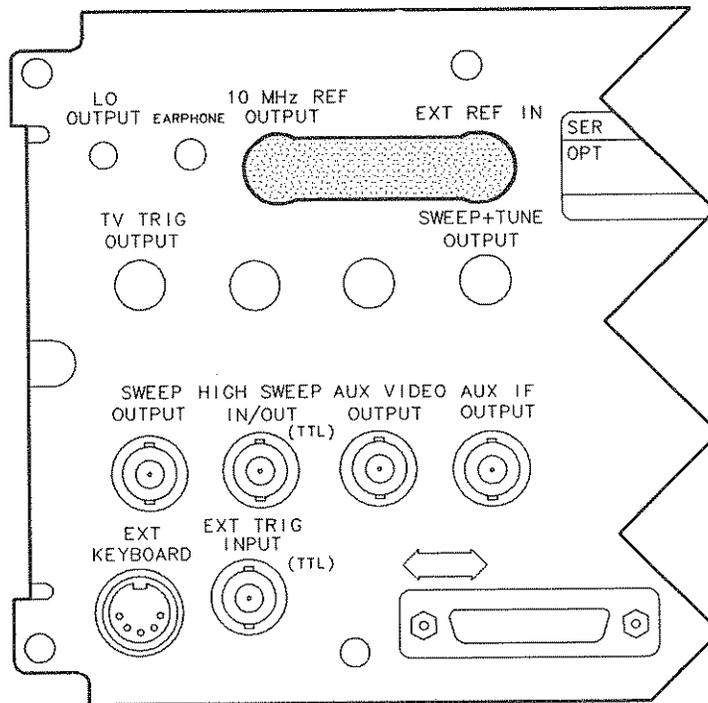

Figure 2-4. Reference Connector
1. Ensure the reference connector is connected between the 10 MHz OUTPUT and EXT REF IN rear-panel connectors. See Figure 2-4.